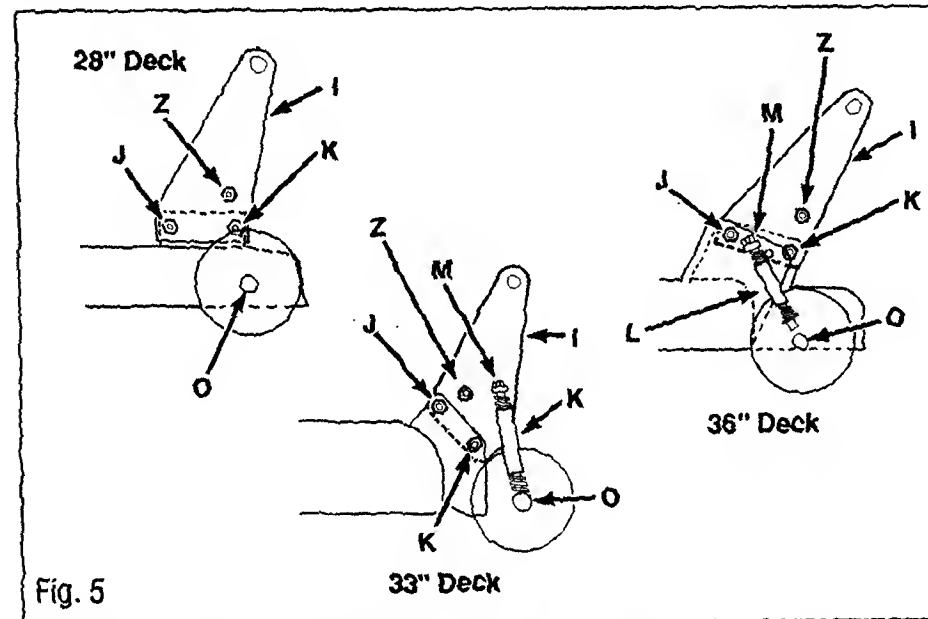

Fig. 5
1. **33" DECKS:** Place lift plate (I) on **inside** of bracket on mower deck (See Fig. 5).
28" & 36" DECKS: Place lift plate (I) on **inside** of bracket on mower deck (See Fig. 5).
2. Secure with flange screws & nuts at (J) & (K). *Nuts should face toward the inside of frame.*
3. **33" & 36" DECKS:** Place pivot (M) into desired height setting hole in lift plate (I) and secure with washer and spring pin. See **GAGE WHEEL ADJUSTMENT** to determine proper height.